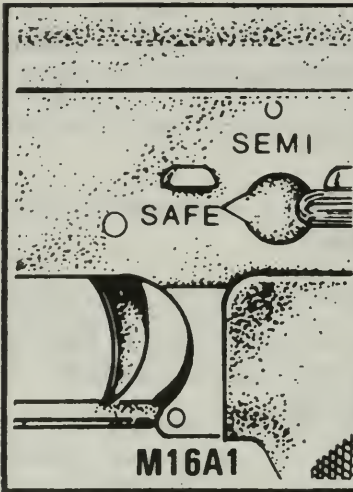

Figure 94. Selector lever on SAFE.
c. With the rifle cocked and bolt open, place the selector lever on safe (Figure 94).